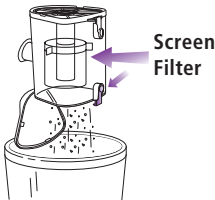

Fig. 20
- 3 If needed, turn the dust cup upside down over the trash receptacle and press the top door release button. **(Fig. 20)** Tap gently to remove contents. Use a dry cloth or paper towel to remove debris stuck to the screen filter inside the dust cup. Press the door shut again until it clicks.